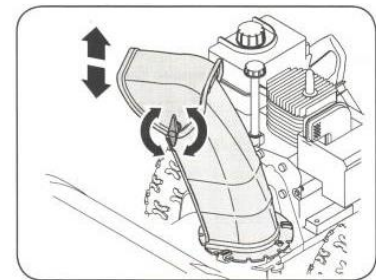

Figure 30
2. Pivot the chute upward or downward before retightening the wing knob, See Figure 30.